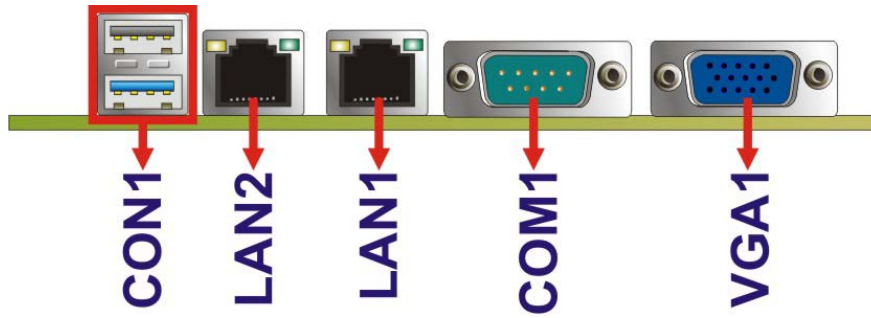

Figure 3-30: External Peripheral Interface Connector
Figure 3-30 shows the WAFER-BT-E38xx1W2 external peripheral interface connector (EPIC) panel. The EPIC panel consists of the following:
- CN Location: See **Figure 3-30**
CN Location: See **Figure 3-30**